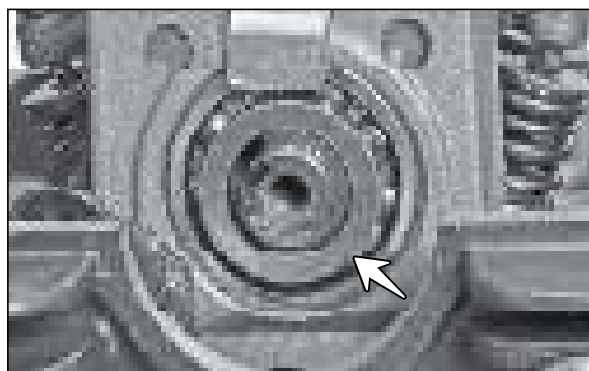

Fig. 3.43
- Take out the washer camshaft sprocket from the camshaft. (Fig. 3.43)